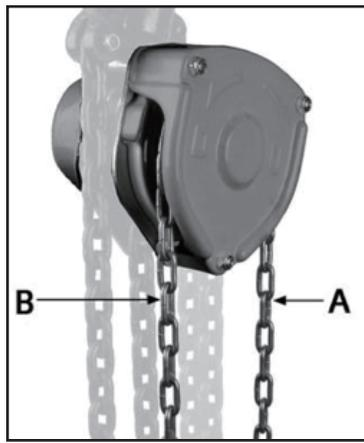

FIG 5
To raise load, pull right side of hand chain (A, FIG 5) so that wheel turns clockwise. To lower load, pull left side of hand chain (B, FIG 5) so that wheel turns counterclockwise.
1. Remove split pin (A) and pin stopper (B) on the chain anchor (C), allowing the end of the load chain to fall free.
2. Pull the hand chain (FIG 5) until load chain is completely removed from gear assembly.